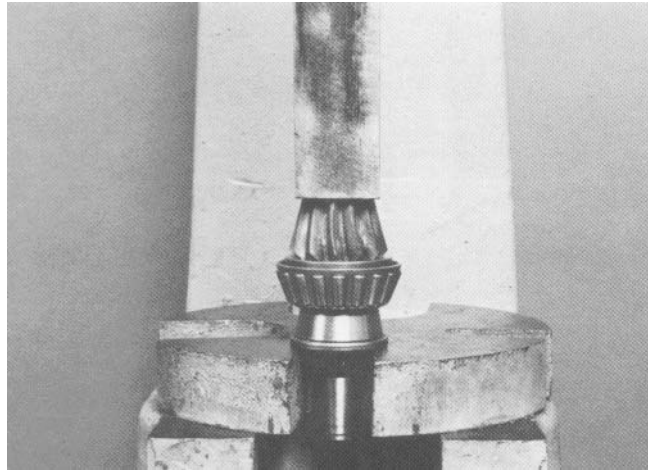

Figure 25
2. Press the pinion inner bearing onto the pinion drive gear. Support the bearing on the inner cup of the bearing ONLY WHEN INSTALLING (Fig. 25).